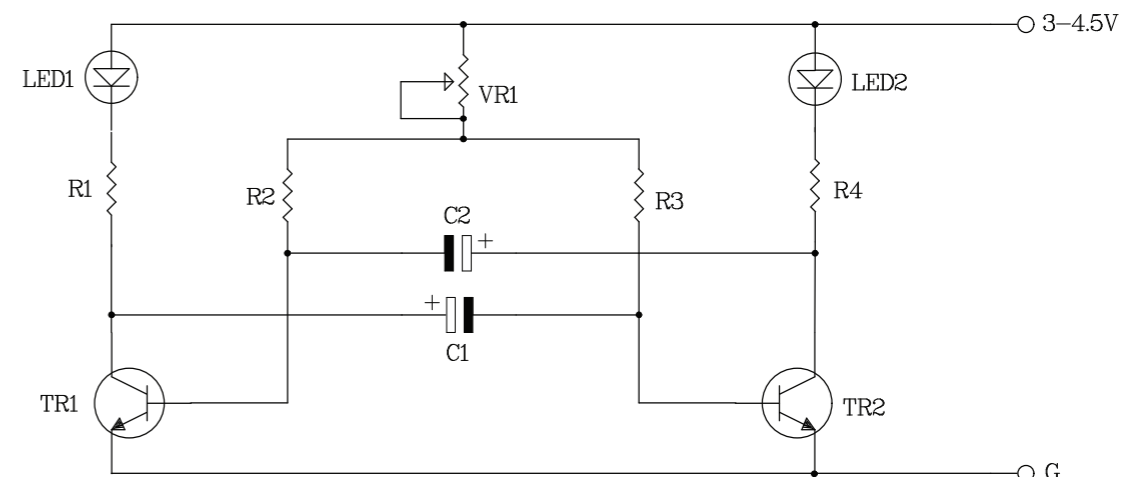

Figure 2. Components Installing
1.Refer to Figure 2 and 3 for guidance on component orientation and placement.
- Potentiometer (VR).